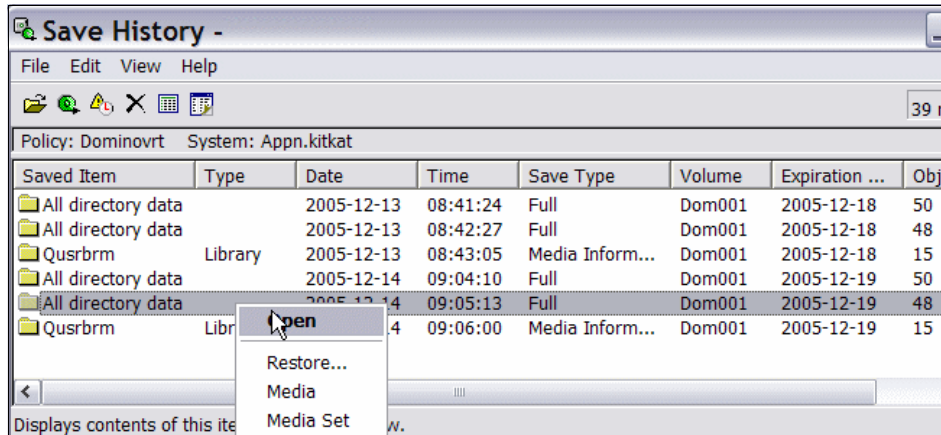

Figure 5-84 Restore Domino data with BRMS, Save History - select
- In the Save History window shown in Figure 5-84 on page 265, right-click the relevant joblog and select **Open**.